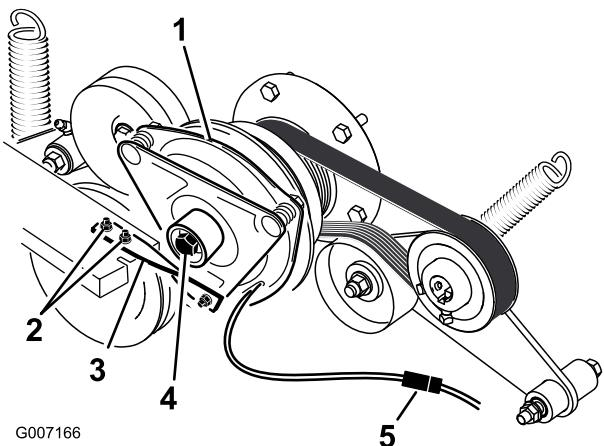

Figure 62
- Unplug the electric connection for the clutch (Figure 62).
- Remove the two bolts holding the rubber clutch strap to the mower frame (Figure 62).
- Remove the center bolt holding the clutch to the engine shaft and remove the clutch and key (Figure 62).
- While holding the crank shaft at the back of the machine, install the center bolt and torque it to 50 ft-lbs (68 N-m) (Figure 62).
- Install the rubber clutch strap to the mower frame with the two previously removed bolts and nuts (Figure 62).
- Plug in the electric connection for the clutch (Figure 62).